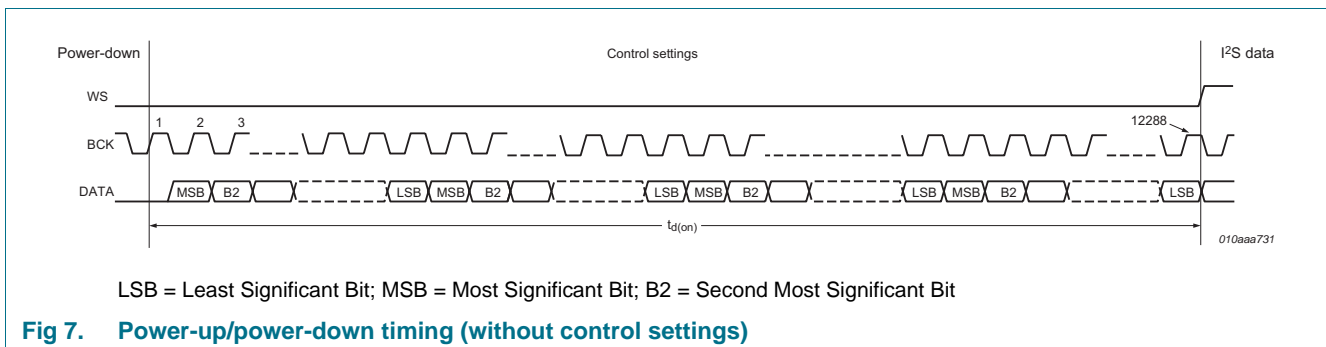

Fig 7. Power-up/power-down timing (without control settings)
The TFA9882 can detect control settings via the I²S input. Control settings are selected by transmitting control patterns on the DATA input during the power-up sequence (the first 12288 bit clock cycles). The word select signal (WS) must be switched off during this interval. Figure 7 illustrates the control setting sequence. After receiving 128 consecutive control setting bytes, the TFA9882 activates the appropriate control setting (see the third column of Table 7). Control settings remain unchanged in all modes unless control pattern 0xAA is received or the V_{DD} supply voltage is removed.